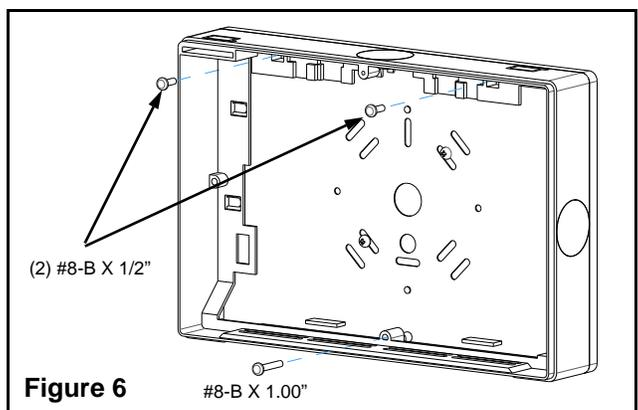

Figure 6
8. Fasten the housing to the back plate by using the 3 screws provided. See figure 6 for screw size and placement.